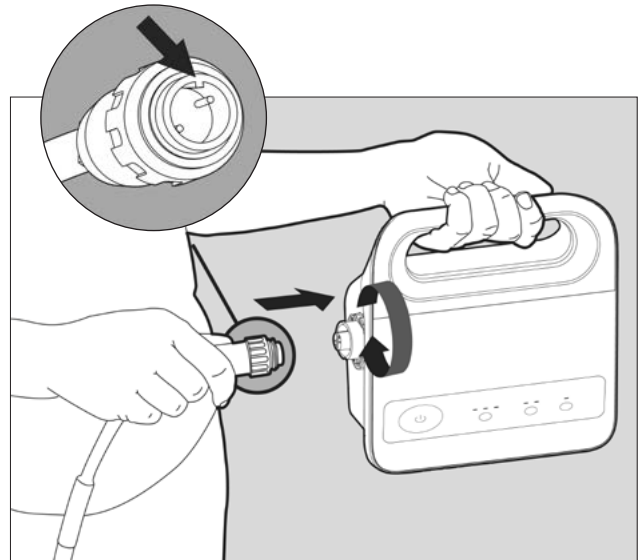

Figure 3
1. Connect the communication cable to the power supply, ensuring the connector notch is lined up with the corresponding groove in the power supply. See **Figure 3**.
2. Turn the cable connector clockwise to lock the cable into the power supply. See **Figure 3**.